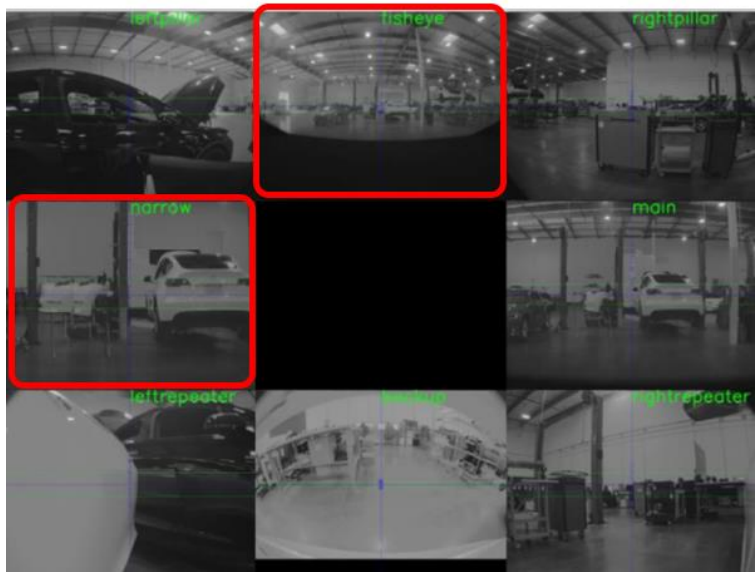

Figure 15
18. After the image loads, review the image to confirm that the cable swap was successful (Figure 15).